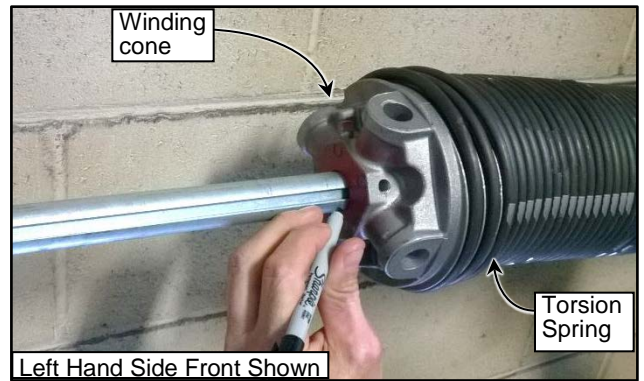

Figure 85
- Mark the shaft just beyond the winding cone at its edge as shown. (See Figure 85)